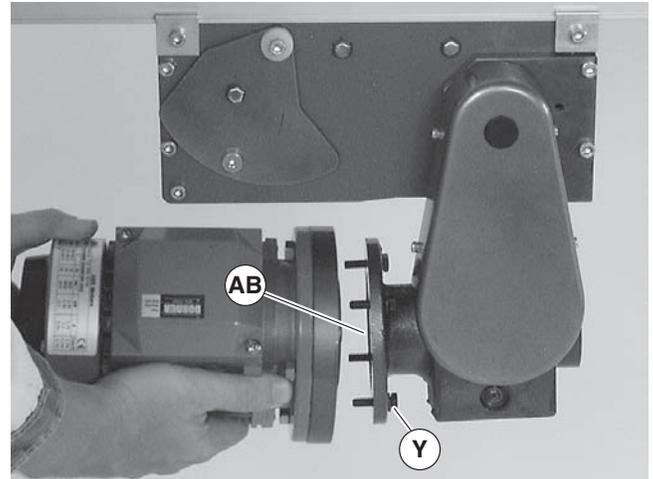

Figure 22
5. With key (Figure 22, item AB) in keyway, slide motor and gear reducer together. Install screws (Y) and tighten.